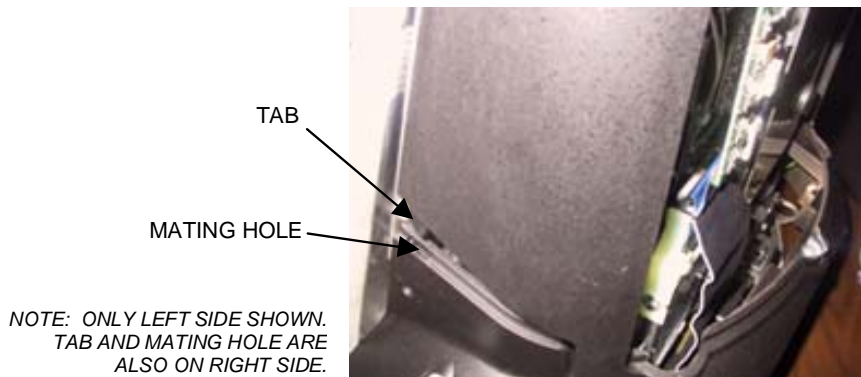

FIGURE 9 - SIDE VIEW OF GAME
4. Reconnect the ground wire to the rear cover and lower the cover into place, carefully lining up the 2 tabs on the cover with the 2 mating holes on the sides of the game. See Figure 9. Make sure the plastic lip on the bottom of the rear cover is behind the metal base.